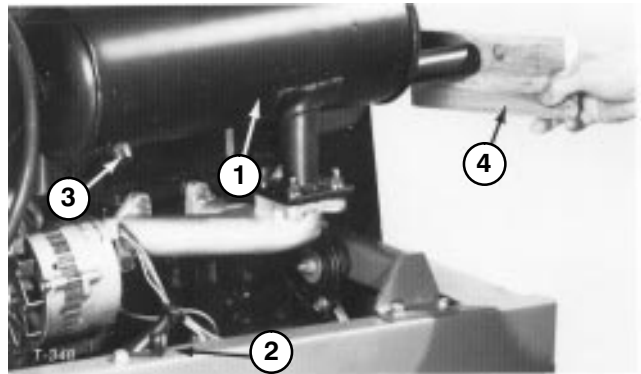

Figure 52
2. Remove pipe plug from clean-out port at lower side of muffler (Fig. 52).
3. Start engine. Plug the normal muffler exit with block of wood or metal plate so exhaust flow will be forced out of the clean-out port (Fig. 52). Continue to block exit until carbon deposits cease coming out port.